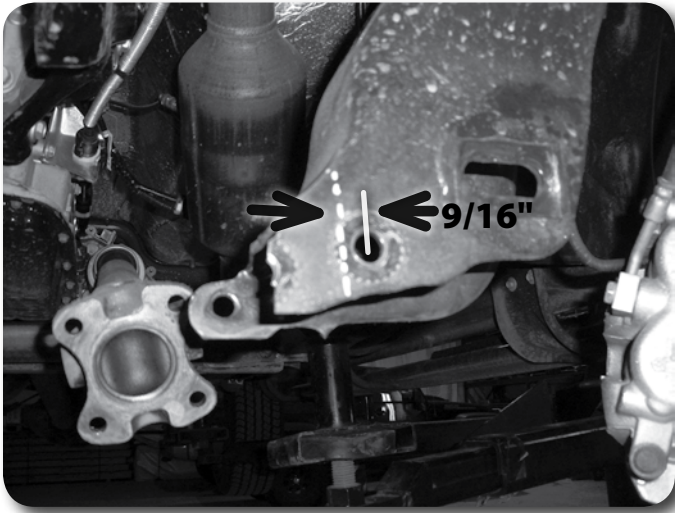

Figure. 11
30. The driver's side rear lower control arm pocket must be trimmed to provide clearance for the differential in its lowered position. Measure inward from the center of the outer crossmember mounting hole $9/16$ " and mark. Repeat on the opposite side of the pocket. Make a continuous line connecting the two marks over the top edge of the pocket. Trim the pocket on the line with a saw-zall or cut off wheel. Paint any exposed metal to prevent corrosion **Figure 11 / 12**.